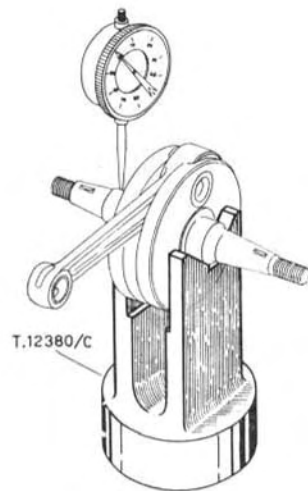

Fig. 107 - Alignment check.
6. - Check the alignment of the crankshaft rotating it on the fixture T.12380/C as shown in Fig. 107. The maximum stroke permissible of the dial gauge is .06 mm.